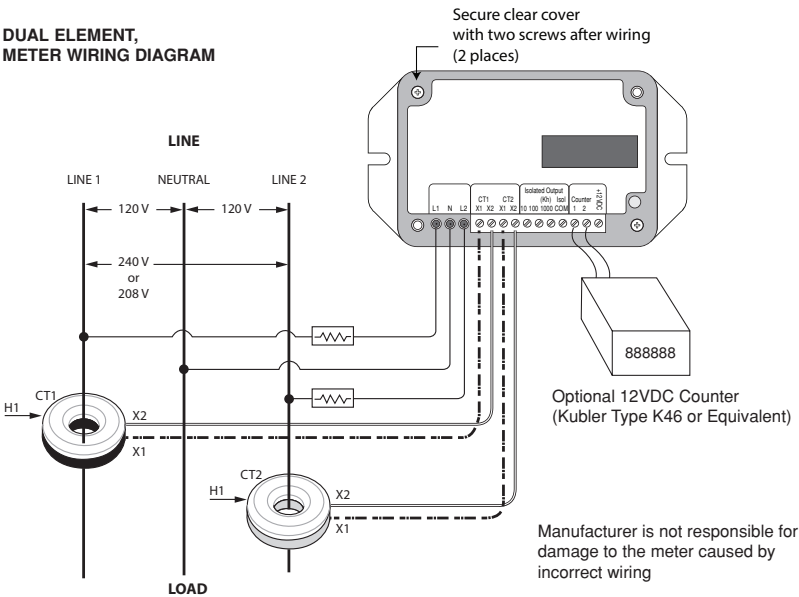

Figure 5 – Dual and Single Element Meter Hookup Diagram
5. Following all national and local electric codes, connect wires to appropriate locations in the load center. Wires should be tightened so that they are held snugly in place, but do not to over-tighten, as this may compress and weaken the conductor. See figure 5 for meter wiring diagram.
NOTE: Failure to install CTs in the correct orientation and on the correct phase will lead to inaccurate meter readings. The meter wiring diagram is shown in Figure 5.